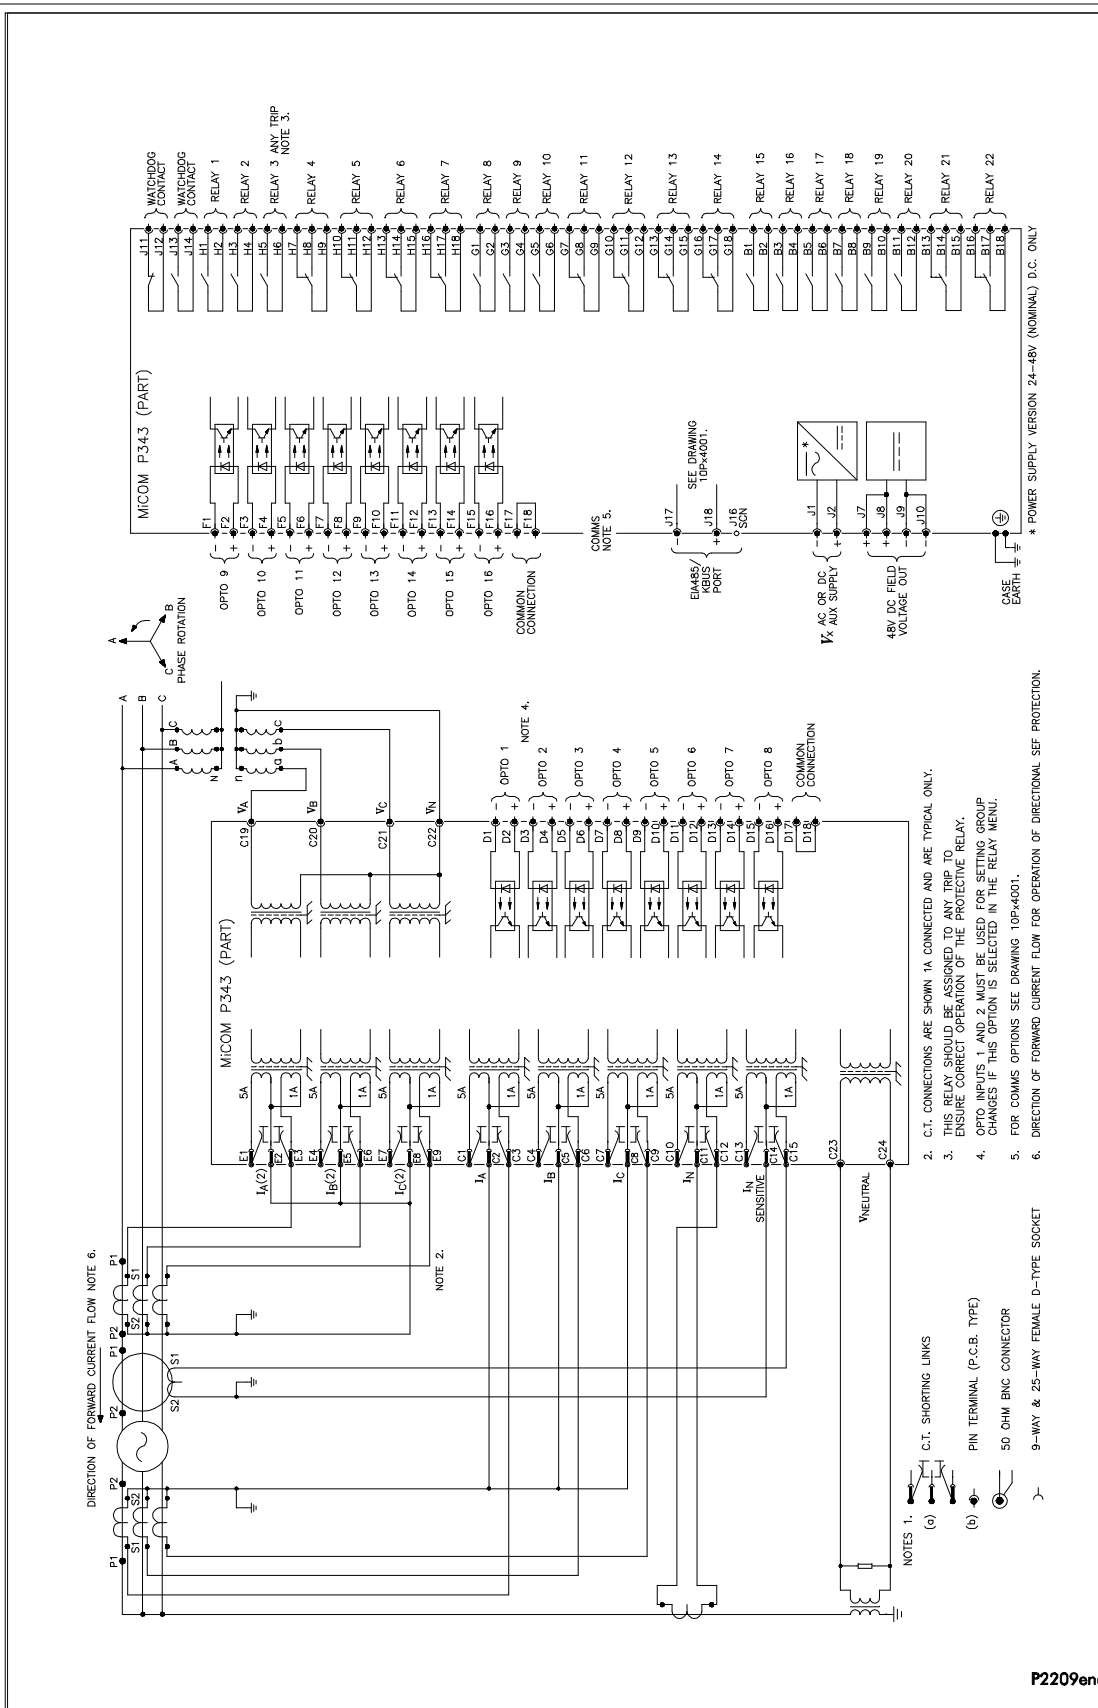

Figure 30 - P343 (60TE) with biased differential (16 I/P & 22 O/P)
- Figure 30 - P343 (60TE) with biased differential (16 I/P & 22 O/P)